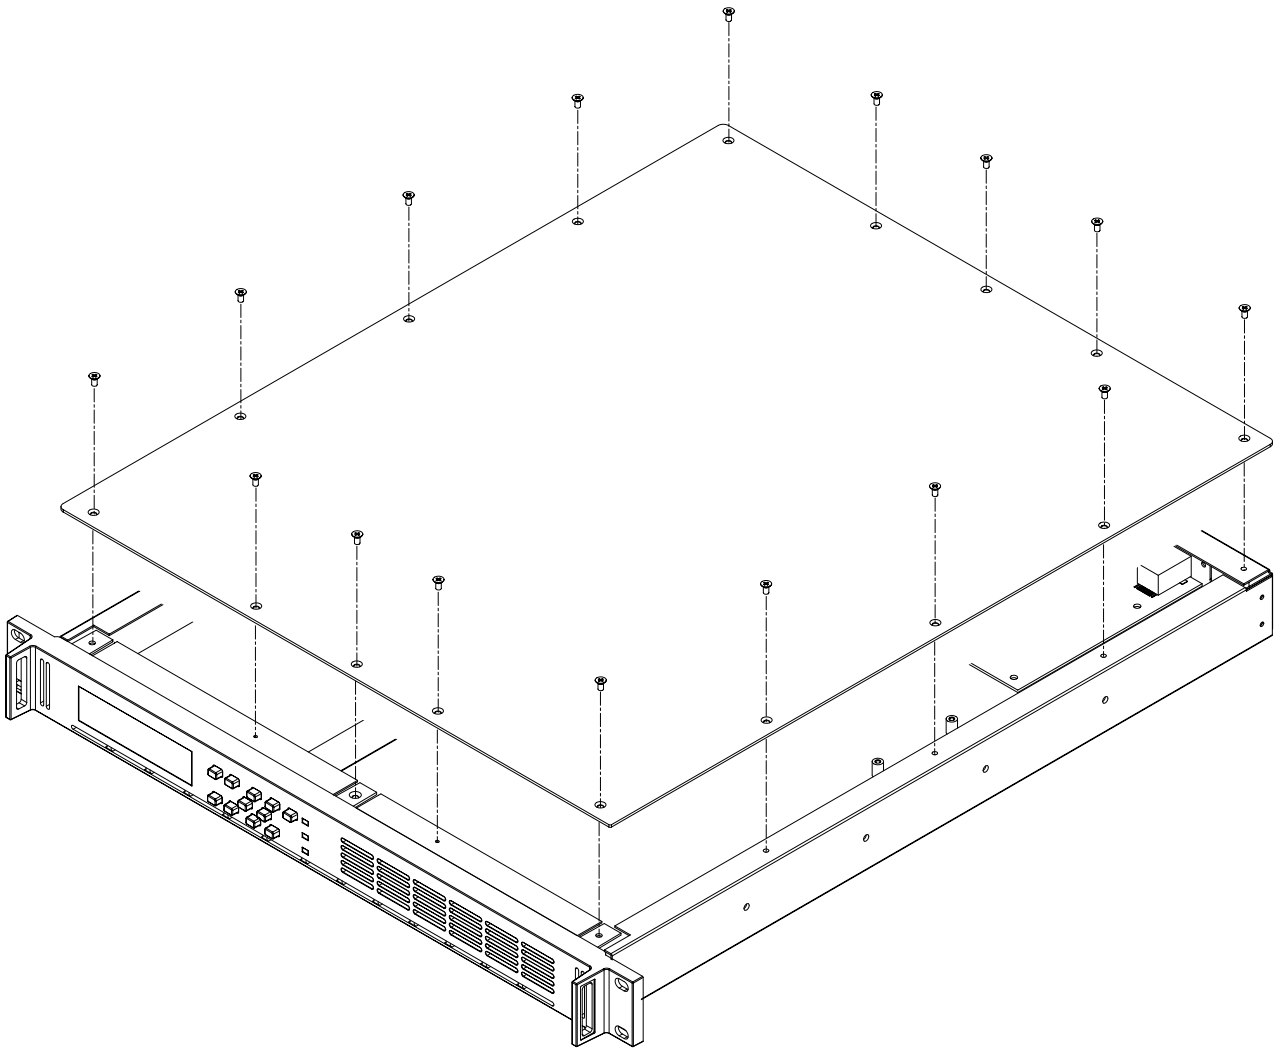

Figure 1: Top cover removal
2. Use a screw driver with a #2 Phillips tip to remove the sixteen screws securing the top cover to the chassis and remove the cover. See Figure 1.
2. Use a screwdriver with a #2 Phillips tip to remove the sixteen screws securing the top cover to the chassis and remove the cover. See Figure 1 on page 5.